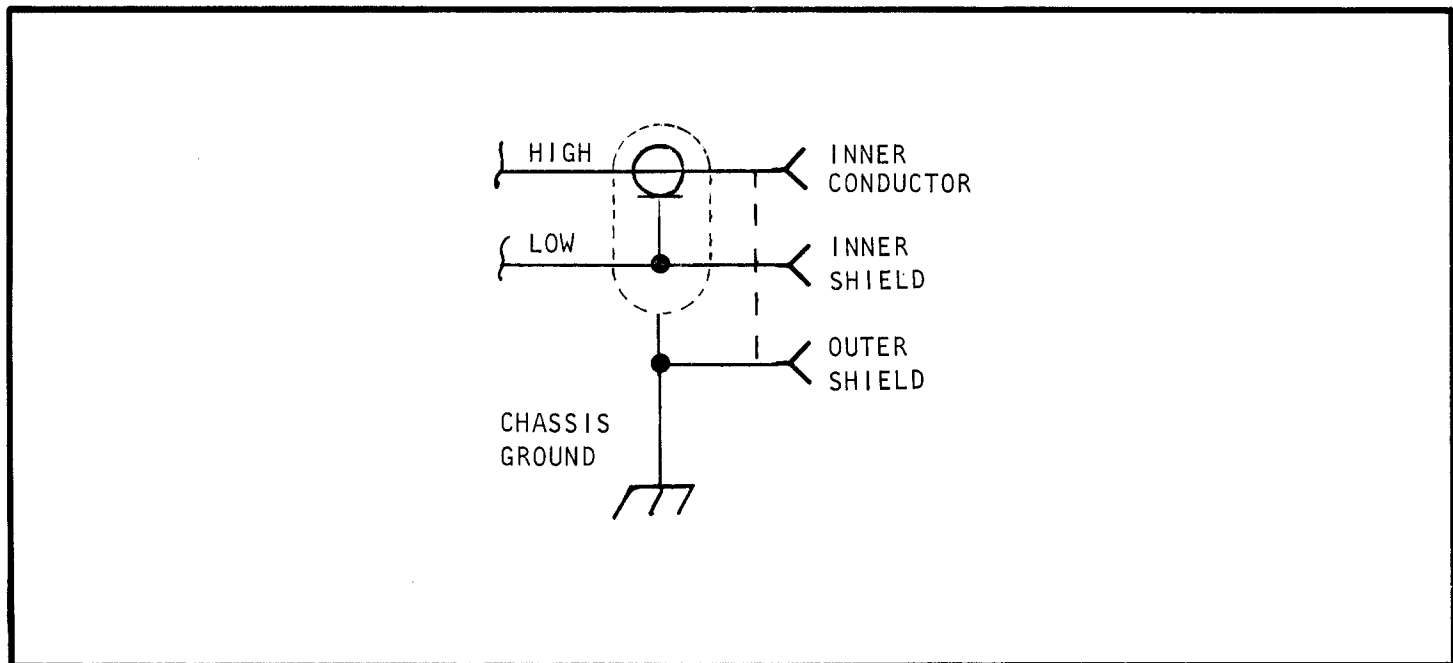

FIGURE 2-4. Triaxial Connector Schematic.
a. Output Connectors. The front and rear panel triaxial OUTPUT connectors (J102, J103) are wired in parallel. By definition, the inner conductor of the triax connector is high, the inner shield is low and the outer shield is chassis ground. The triax connectors are shown schematically in Figure 2-4. The OUTPUT connection can be made to either the front panel connector or the rear panel connector. The unused OUTPUT connector should have a cover (two CAP-18 are supplied) installed to provide protection against electrical shock and dust accumulation. The cover also provides electrical shielding. Output connections should be made using low-noise triaxial cable. For custom length cables, Keithley Part No. SC-22 low-noise triaxial cable should be used. A mating connector is available by ordering Keithley Part No. CS-141.